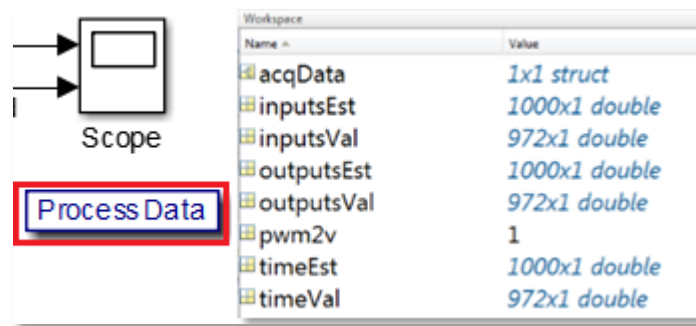

Figure 36 - Process Data, MATLAB Workspace – Acquired Data
3. Once the model has finished running, click on the **'Process Data'** button (Figure 36) in the Simulink model and you will see two MATLAB figures with the acquired data that shows the
estimation and validation data sets. This is also available in the MATLAB workspace as variables as shown in Figure 36.